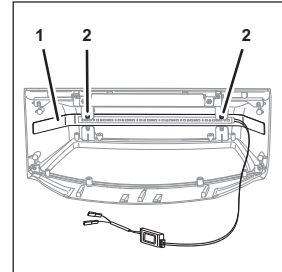

Fig. 46
1. Remove the fastening bolts (Fig. 46/2) from the retaining plate (Fig. 46/1).
2. Remove the retaining plate (Fig. 46/1) with LED strip from the taxi cab hood.
4. Position the retaining plate (Fig. 46/1) with LED strip within the taxi cab hood.
5. Attach the retaining plate (Fig. 46/1) using the fastening bolts (Fig. 46/2).